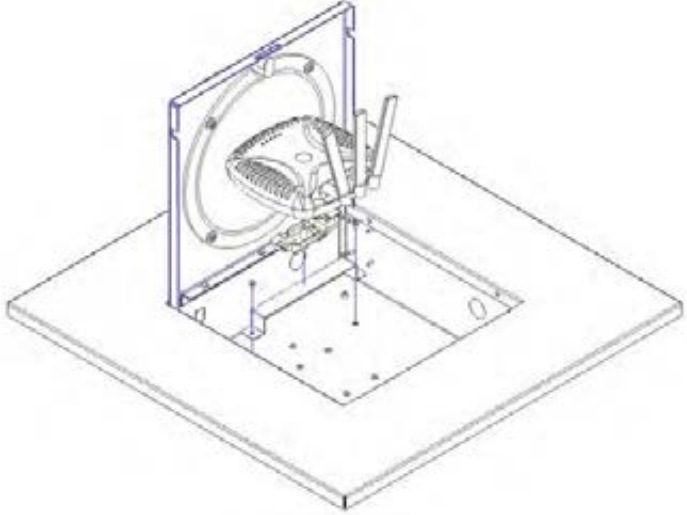

Figure 2
Step 2 –Install the access point's mounting plate to the enclosure's "T-Bar" mount using the manufacturer's instructions for attaching the mounting bracket to a ceiling tile grid (T-Bar). Attach the Access Point to the mounting plate. (Ref. Figure 2) Proceed to Step 3